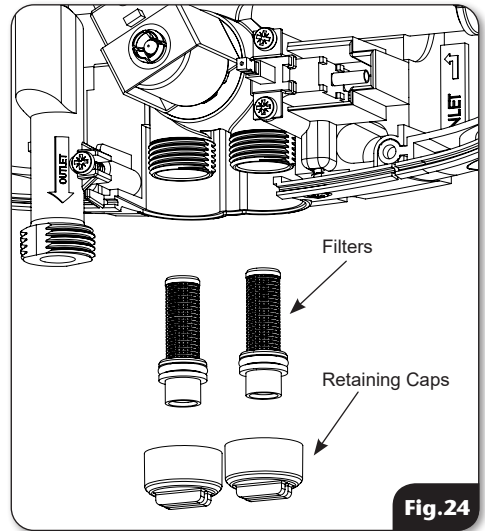

Fig.24
- The inlet filters are fixed to the inlet retaining caps (**fig.24**). Only remove the filter to the same side as plumbing entry leaving the opposite filter/filter cap in position, failure to do so will result in leakage.